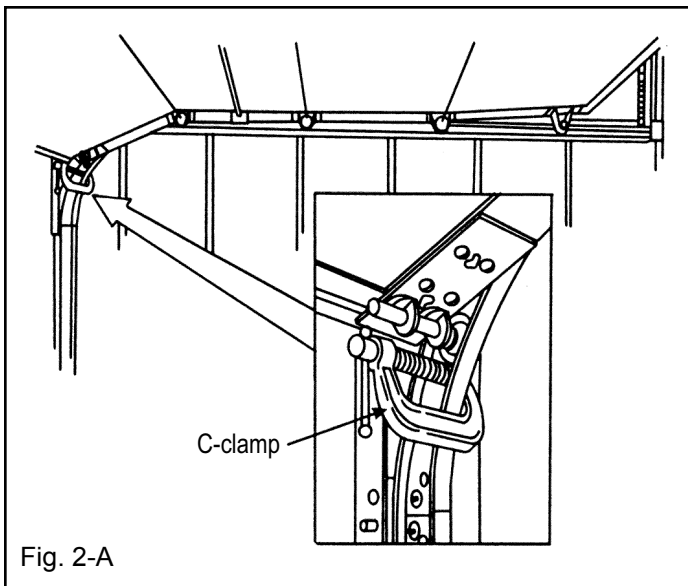

Fig. 2-A
Raise door to full open position. Place C-clamps or locking pliers tightly on both sides of track under door so door is held securely in place (Fig. 2-A). With door fully open, most spring tension has been removed. Keeping C-clamps in place to keep door from falling, detach cable at both ends. Disassemble and remove springs and cable completely from door.
Step 1: Door Frame. On the inside of your opening should be framed with wood jambs, 2" x 6" [51 mm x 152 mm] if possible or with steel channel. The side jambs should extend to approximately the same height as the headroom required. If you have just removed an old door, the condition of the jambs should be inspected. If the jamb has deteriorated, it should be replaced now. The jambs should be plumb and the header level. If there are any bolts fastening the jambs to the wall the heads should be flush so they don't interfere with the installation of your new door (Fig. 1-J). Typical installation for wood, steel or masonry jamb material is shown in Fig. 2-J.